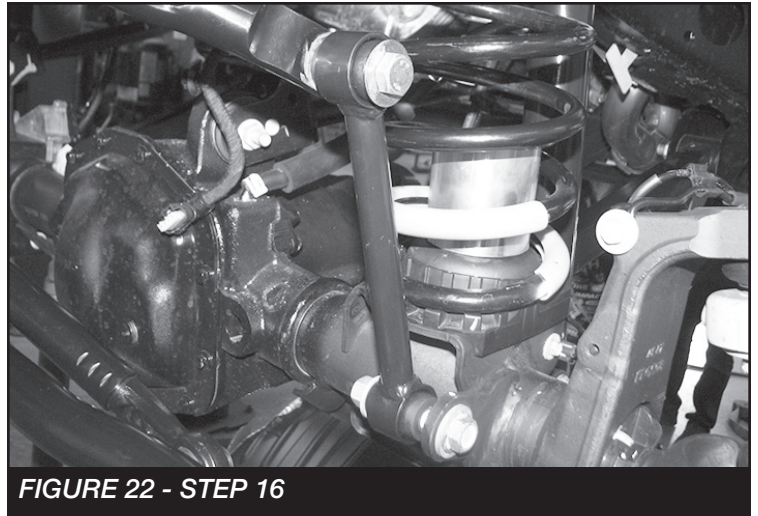

FIGURE 22 - STEP 16
16. Install FT50048 (Bushings) and FT404739 (Sleeves) into FT50261BK (Sway bar links). Then, install the links to the axle mount and sway bar using the supplied M12 x 70mm hardware for the upper location and the factory for the lower. Torque to 65 ft-lbs. **SEE FIGURE 22**